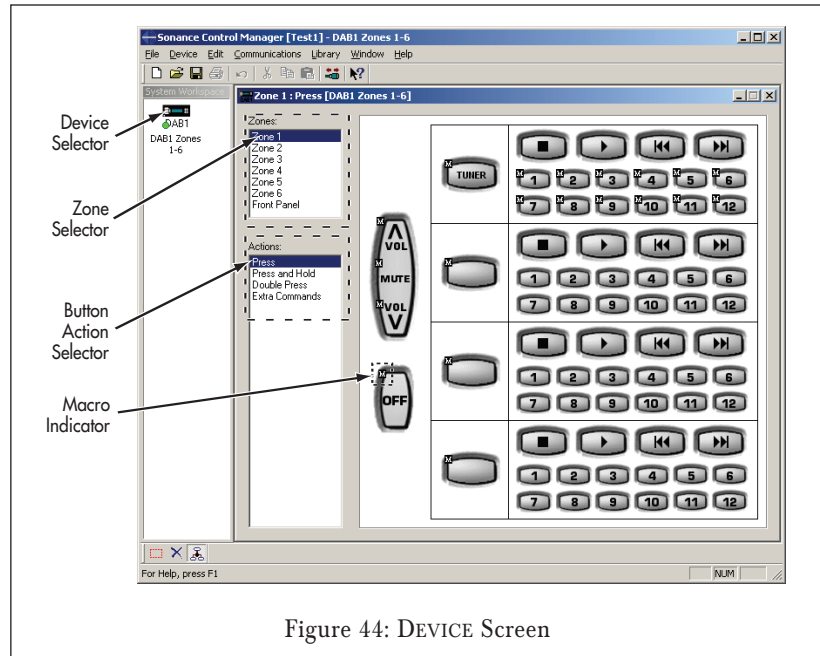

Figure 44: DEVICE Screen
Device Screen (see Figure 44)
1. Open the DEVICE screen (see *Figure 44*, opposite).